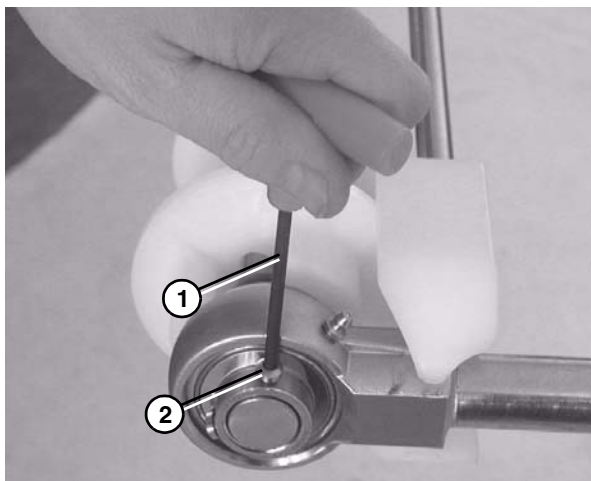

Figure 73
5. Use a hex wrench (**Figure 73, item 1**) to tighten the bearing shaft fasteners (**Figure 73, item 2**) to 54 in•lbs (6 N•m). Check after 24 hours of conveyor use.